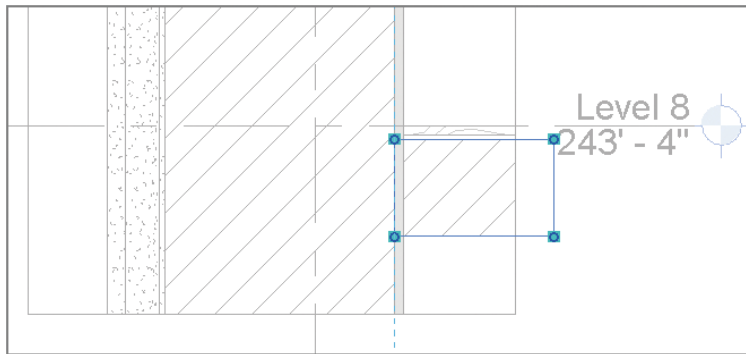

FIGURE 11.4 Modifying the boundary of the filled region
2. Click the Filled Region button on the Annotate tab. Choose Invisible from the Line Style drop-down on the Modify tab, and create a box bounding the floor slab (Figure 11.4).